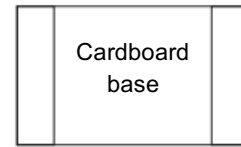

Figure 1.
2. Repeat step 1 at the other end (see Figure 1).